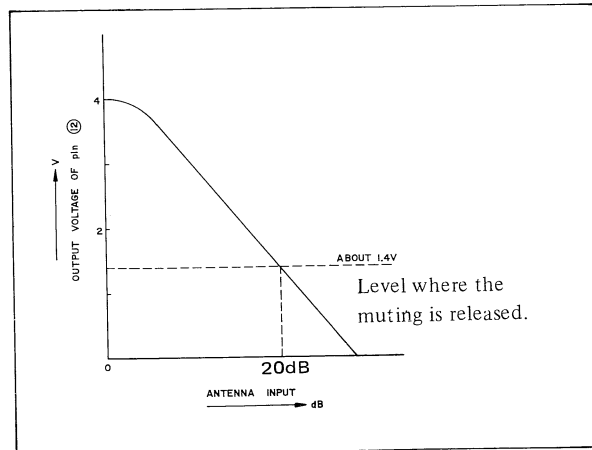

Figure 15
Fig. 15 shows the output voltage of two outputs, one is at the pin (12) of IC101 and another, at the collector of transistor Q103, to be added to each other.